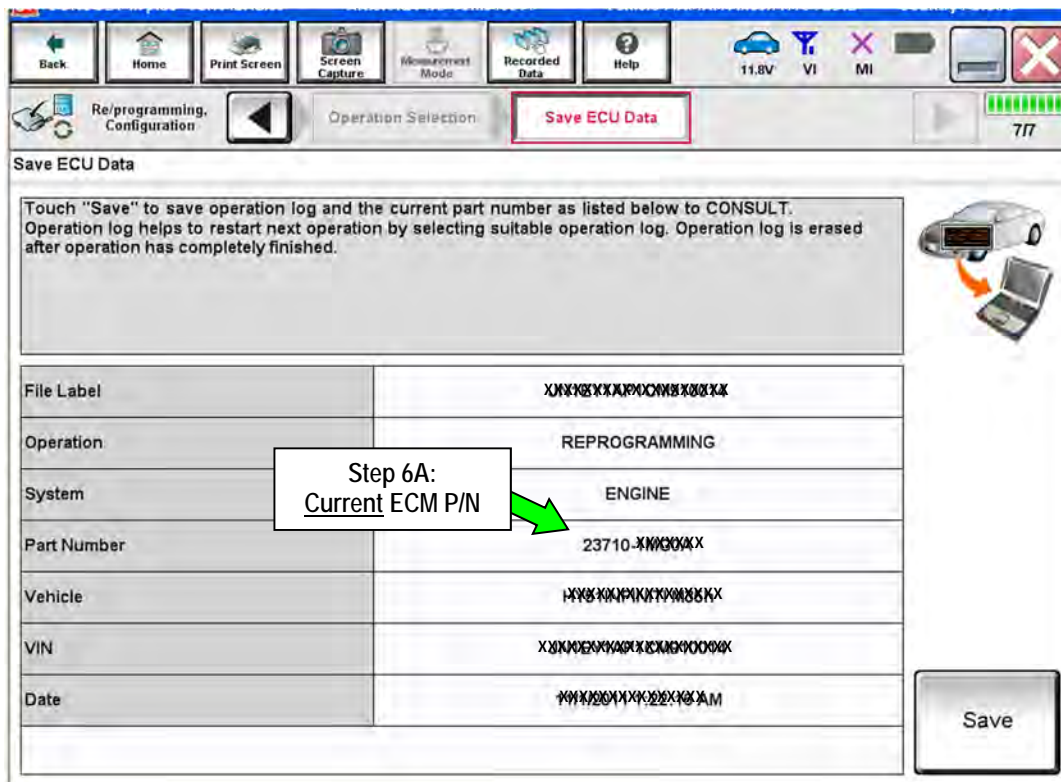

Figure 2
5. Follow the on-screen instructions and navigate the C-III plus to the screen shown in Figure 2 on the next page.
6. When you get to the screen shown in Figure 2, confirm this bulletin applies as follows: